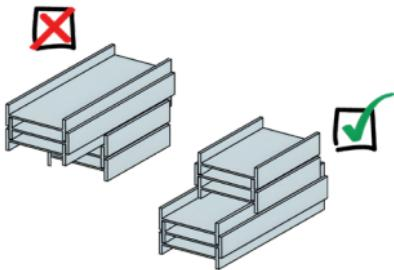

Figure 18. Stack longest section on the bottom and shortest on top.
- Stack frames and beams with the longest on the bottom and the shortest on top (Figure 18).